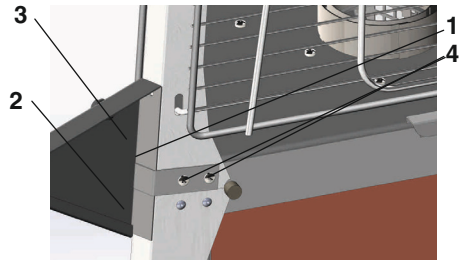

Fig. 18
2. unscrew the screws (4) securing the upper profile (1);
3. Get the corner (2) in the slot of the support (3);
5. repeat steps 2-4 for the remaining supports (Fig. 18);